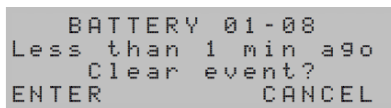

Figure 8-4: Battery Display
The screen in Figure 8-4 shows the Zone (01), Unit (08) and the time of event.